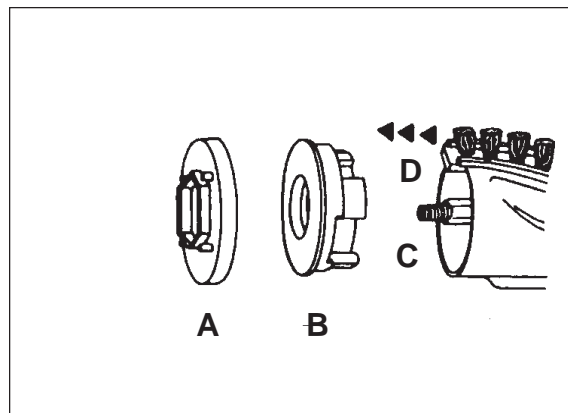

Figure 9
4. Remove end cap (figure 9, item A) and bearing retainer (figure 9, item B).
5. Push the exposed end of the shaft (figure 9, item C) through the opposite end of the brush roll.
6. Pull out the worn brush strips (figure 9, item D) with pliers and slide in new ones of the same length, inserting the rounded end first.
9. Return shaft (figure 9, item C) and align the indentation of the bearing retainer (figure 10, item B) with the brush strip on both ends. Seat firmly.
10. Tighten endcaps (figure 9, item A).